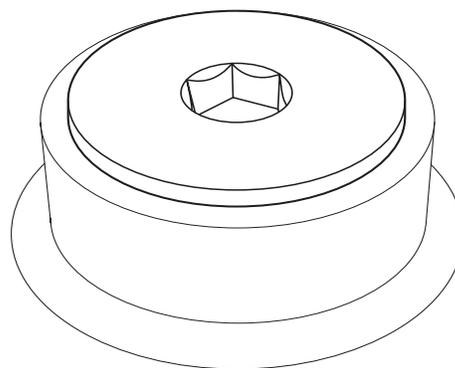

Figure 6.24 - Remove Fill Plug from Hydraulic Oil Tank
4. Remove Fill Plug - Unscrew the fill plug from the top of the hydraulic tank (Figure 6.24).